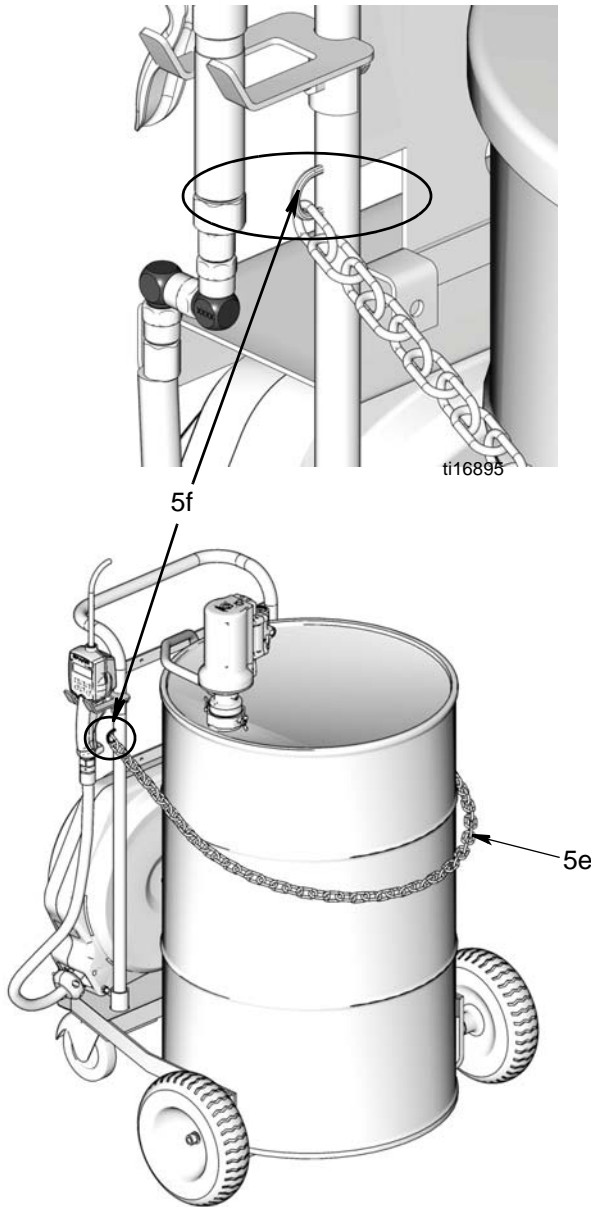

FIG. 34
7. Secure a chain (5e) around the drum as shown in FIG. 34. Adjust chain to a suitable length for the drum size. Connect ends of chain to the two ear brackets (5f).